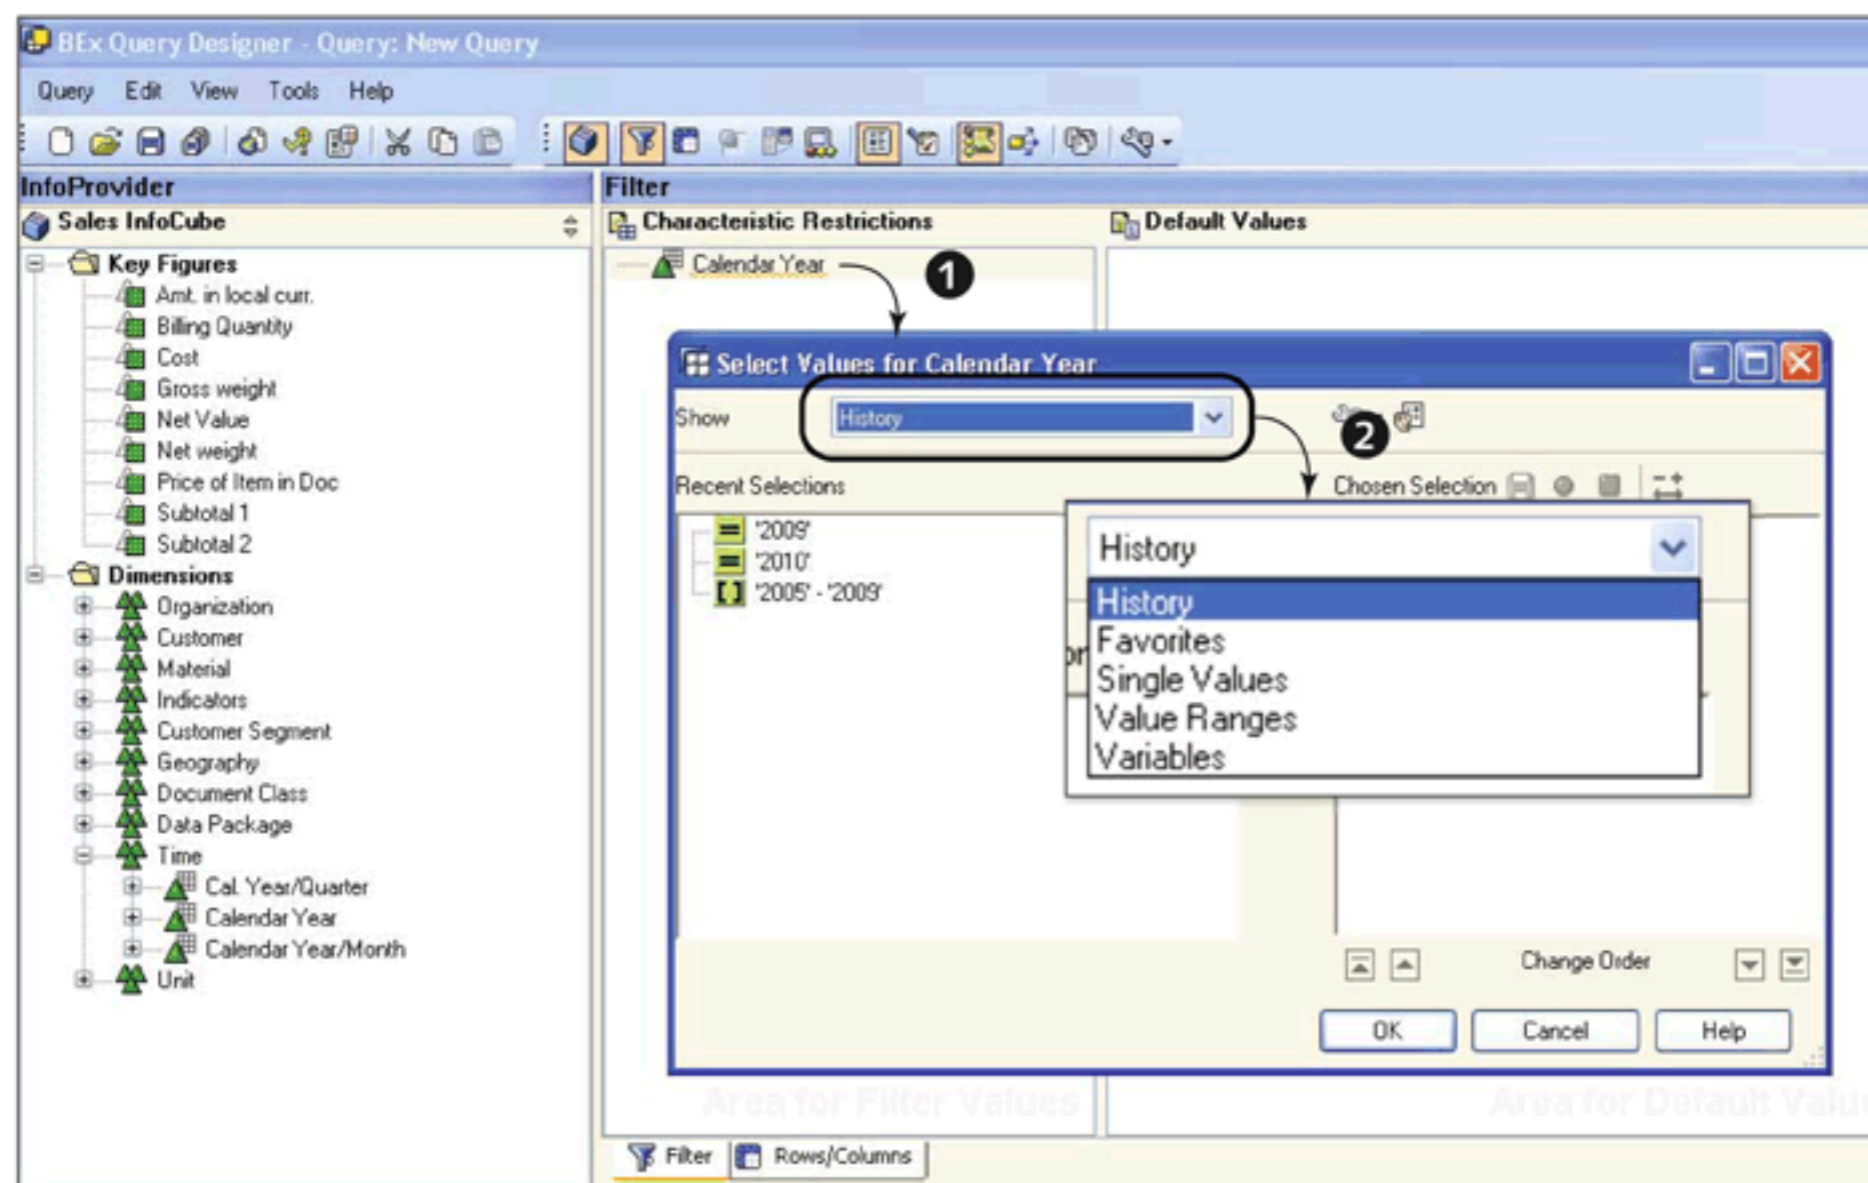

Figure 9.39 Restricting a Characteristic
To create these restrictions in a query, first drag the relevant characteristic into the CHARACTERISTIC RESTRICTIONS area of the query, and then call the restrictions window from the context menu of the characteristic (❶ of Figure 9.39).